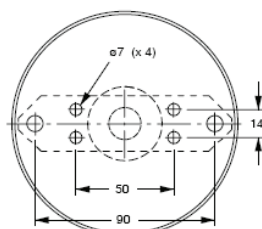

Figure 1
- Set the actuator with yoke on the valve bonnet together with the spacer ring and yoke lock nut (see Figure 1 on page 3). Tighten the yoke lock nut (ca. 160 Nm)